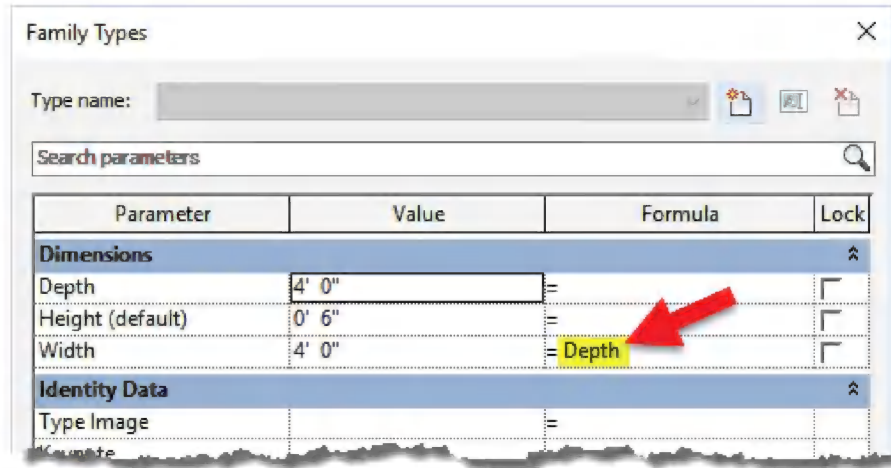

FIGURE 15-4.4 Modifying formula to control the width
11. Change the formula for *Width* to simply read **Depth** (see Figure 15-4.4).